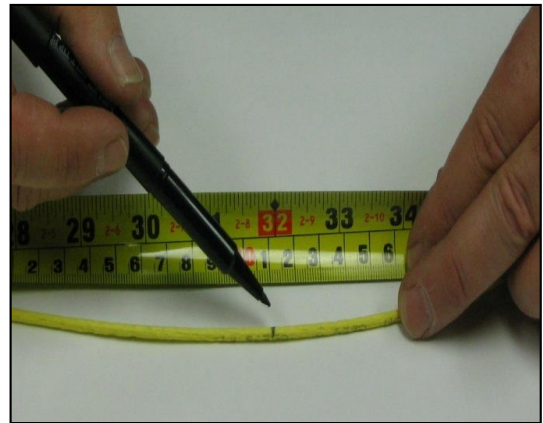

Figure 7
6.1 Marking Outer Foam Jacket - Same procedure. Mark at 30" - 32". Refer to Fig. 7.